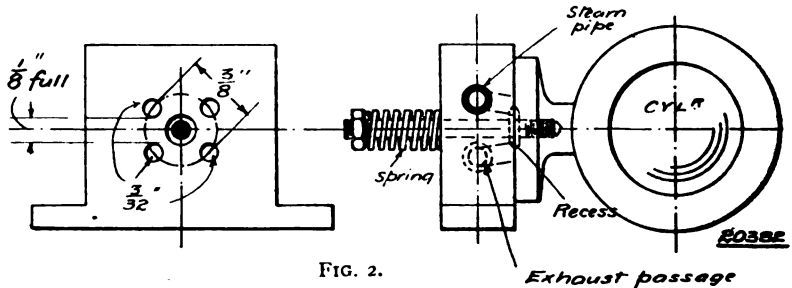

FIG. 2.
We would recommend you to read up the second chapter of our handbook (No. 28), "Model Steam Engines," and also to look up the back issues of this journal. The notes on the subject in "The Model Locomotive" should also be referred to. (1) We append sketches (Figs. 2 and 3) of the steam block suitable for the given cylinder. The ports in the cylinder seem rather closely spaced; but we cannot say much about this, as you do not send us the distances between cylinder centres and crankshaft, which is an important item in setting out the ports of an oscillating cylinder. The exact shape of the steam block may be altered to suit circumstances. The steam ports on the block may be 3-32nds diameter, and open into passages of the same, or slightly larger, diameter. Of course, the steam and exhaust passages may be transposed to give a contrary direction of rotation. The blank space between the ports of the steam block should be 1/8 in. full, so that live steam does not pass from the steam side to exhaust. (2) Clearance where? About